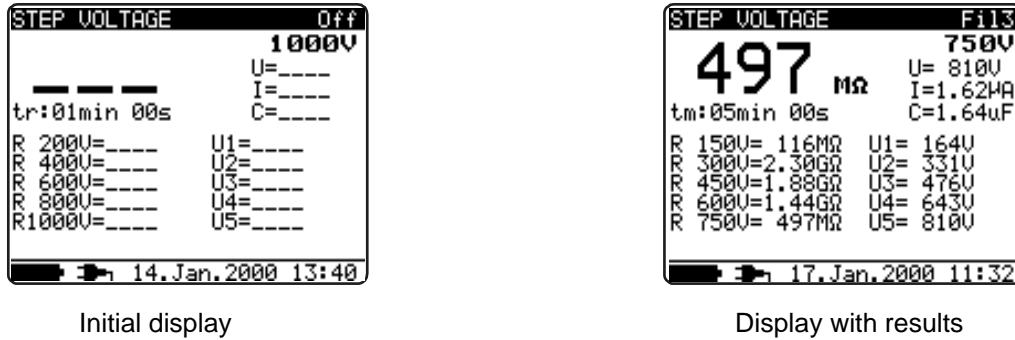

Fig. 14. Step Voltage Insulation Resistance function display states
- The result (see the right part of the figure 14.) can optionally be saved pressing the **MEM** key twice, see the chapter 6.1. Store, Recall and Clear Operation.